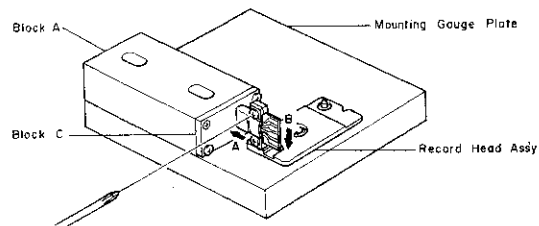

Fig. 2.18
- (5) Remove the Block B from the Mounting Gauge Plate.
- (6) As shown in Fig. 2.18, mount the R-8L record head assembly onto the Mounting Gauge Plate, then check the location of the R-8L record head surface. (If record head touches the Block C, loosen 2 pcs. of screws that assemble record head and record head plate, then place the R-8L record head assembly onto the Plate.)
- (7) Remove the R-8L record head assembly from the Mounting Gauge Plate.
- (8) Readjustment of Record Head Mounting Gauge M-9048 (DA09048A)
- (9) Remove the Block B from the Mounting Gauge Plate.
- (10) Mount the R-8L record head assembly onto the Mounting Gauge Plate.
- (11) As shown in Fig. 2.18, loosen 2 pcs. of screws that assemble record head and record head plate. As the location of the Block A is secured by the item (8)-(c), push the record head to the directions A and B, then tighten 2 pcs. of screws.
- (12) Check to insure freedom from gap between the Block C and record head surface, then tighten the 2 pcs. of screws on the record head assembly with lock tight paint.
- (13) Remove the R-8L record head assembly from the Mounting Gauge Plate.
- (14) Assemble the record head assembly to the head mount base assembly.
- (15) Assemble the head mount base assembly to the mechanism assembly.
- (16) Check the record head stroke. If the above are inaccurate, items (1) through (16) will have to be repeated till satisfactory results are obtained.